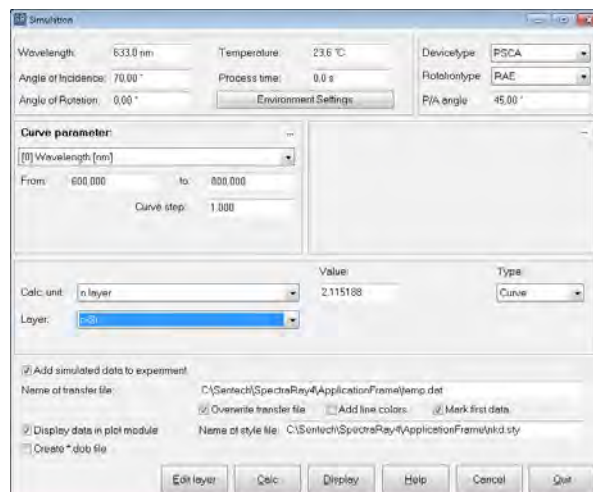

Fig. 5-127 Simulation: Retrieving layer information
The first example of using this feature is to compare two materials in its dielectric functions. It requires the calculation of $n(\lambda)$ for two materials ($k, \epsilon_1, \epsilon_2$ is the same). Set up the simulation mask as visible in Fig. 5-127. This adds two elements to the dialog:
You create a comparison between two materials as follows. First check the “Overwrite transfer file” box and select the first material. If you have an empty data list (1) check “Add simulated data to experiment”. Now select the curve parameters (example is shown in Fig. 5-127). Uncheck “Display data in plot module”, because the view of data is needed only after calculating the second data set. Press “Calc” to run the calculation. After this was successful you have the first data set and you have to append the second. Uncheck “Overwrite transfer file” and check “Display data in plot module”. This appends the following data and since the second data set is the last to be calculated the automatic data display is useful (the same function is achieved by pressing the button “Display” after the calculation has finished). Select the second material and rerun the simulation by pressing the button “Calc”. This creates the second data set and automatically runs the PLOT program with the ASCII file containing both data sets. This should display the two desired curves.